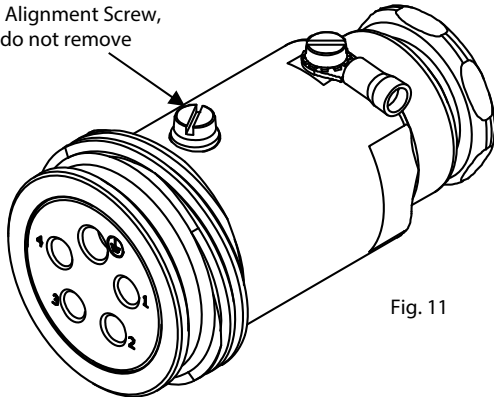

Fig. 11
- 10) Once the connector receptacle has been unpacked, the insert must be removed to allow for assembly. Loosening the screw on the body of the connector as shown below in Fig. 11 until the insert is free to be removed from the connector. **Do not** fully remove the screw. Safely store insert until required.